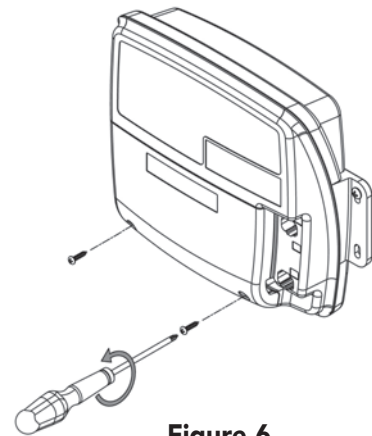

Figure 6
1. Using a Phillips-head screwdriver, remove the two cover screws from the front of the AudioSteam (**Figure 6**), and remove the cover from the unit.